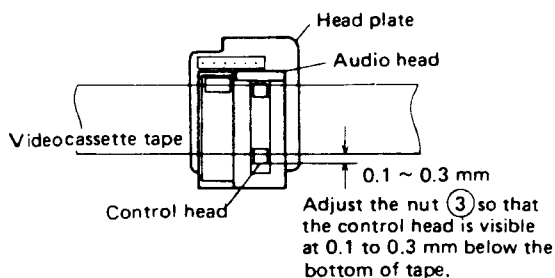

Figure 1-17.
8. Use a rough alignment tape and play it back. Using the specified box driver, turn the hexagon nut for audio/control head height adjustment so that the audio/control head has the height with regard to the tape as shown in Fig. 1-17.